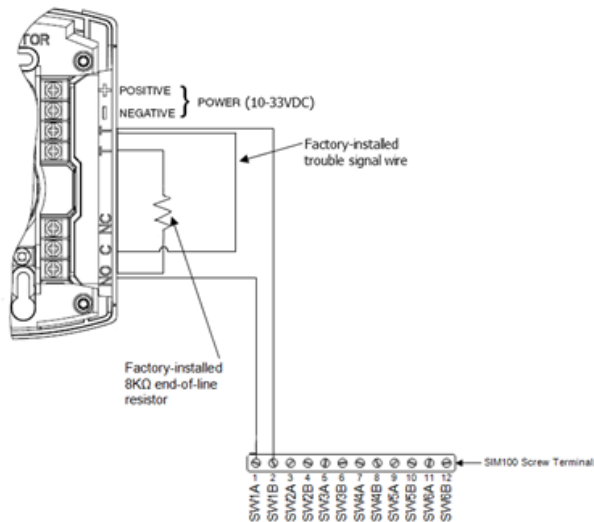

Figure 1 - Wiring Diagram
Please follow these instructions to connect the CO-CO1224T to the NMEA 2000 network via a Maretron SIM100 Switch Indicator Module. The wiring diagram appears in Figure 1 on the reverse side of this page. The diagram shows a connection to channel #1, but connections to other channels are similar.
1. Connect the CO-CO1224T power terminals to a 10-33VDC supply that is independent of the NMEA 2000 network power supply as shown in Figure 1. Powering the unit separately from the NMEA 2000 network allows the detector to work even when the NMEA 2000 network is powered off.
2. Connect two wires from the CO-CO1224T to a free switch channel on the SIM100. The example in Figure 1 shows the detector connected to switch channel 1, terminals SW1A and SW1B.